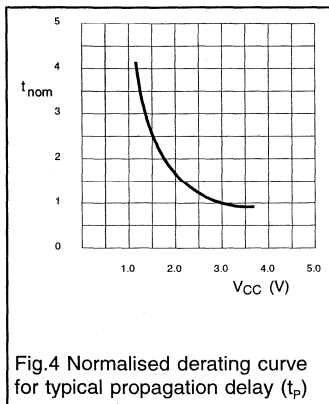

Fig.4 Normalised derating curve for typical propagation delay (t_p)
- Since they also function, at reduced speed (see Fig.4), with supply voltages down to as little as 1.2 V (2.7 V for LVT), they can also be used in equipment powered by a one or two cell battery